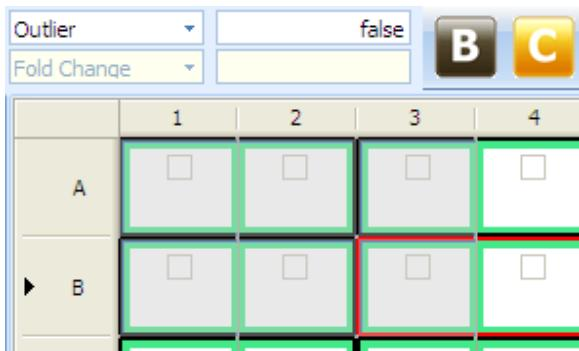

Figure 4.22 Flagging outlier
2. Select multiple wells you want to set the dilution at one time(Figure 4.22).